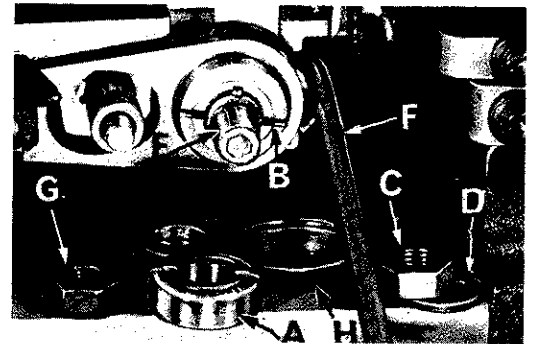

Fig. 15
If eccentrics are unusually tight fitting, in addition to removing nut (C) and washer (D), Fig. 15) from shaft (E), it may be helpful to remove nut (G) and feed driving connection (H). Then continue as originally suggested.